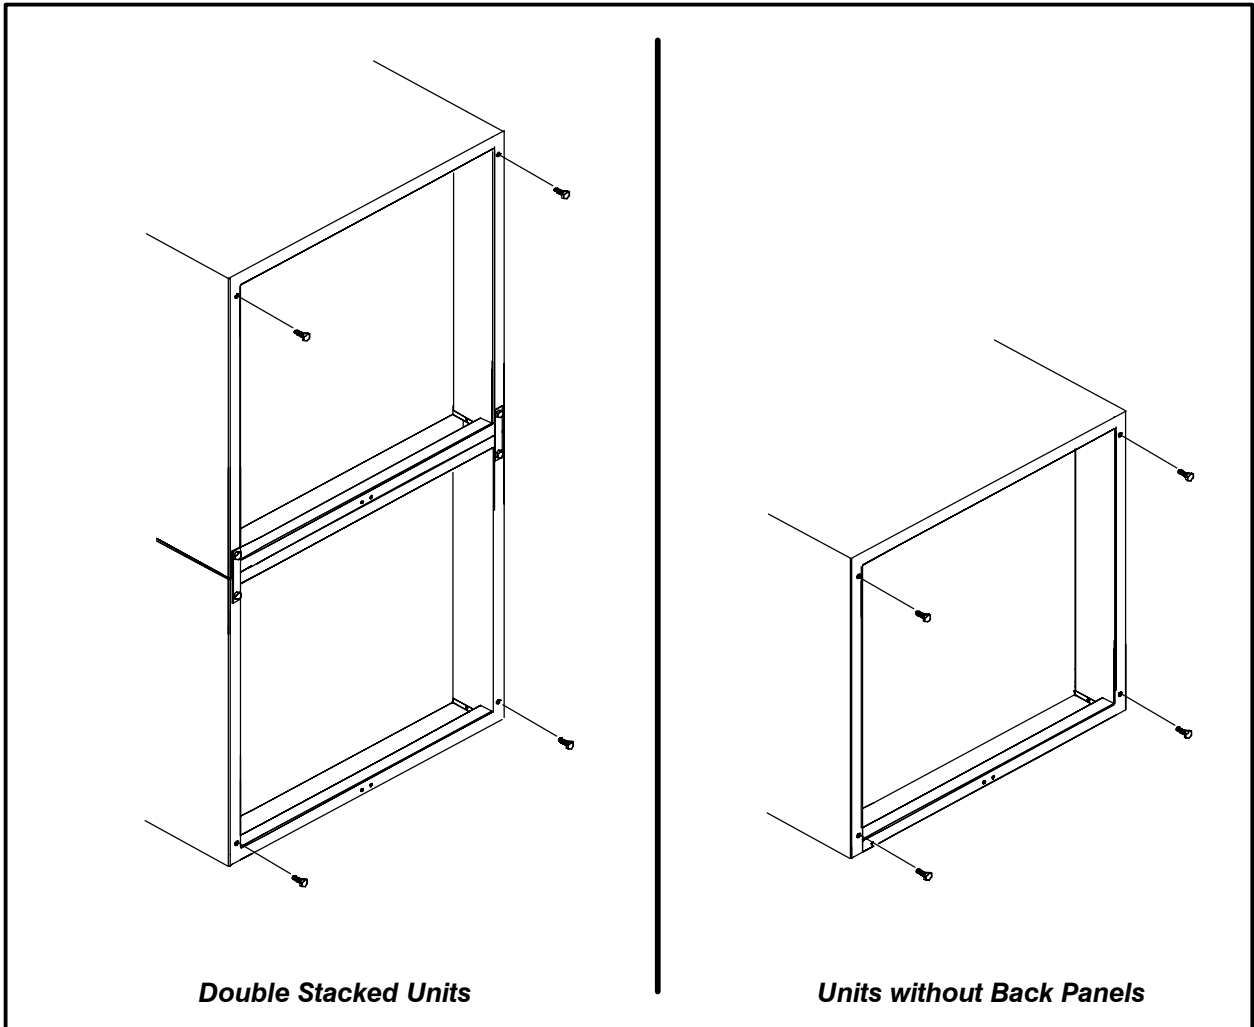

Figure 3
2. Install the bolts as shown in Figure 3.